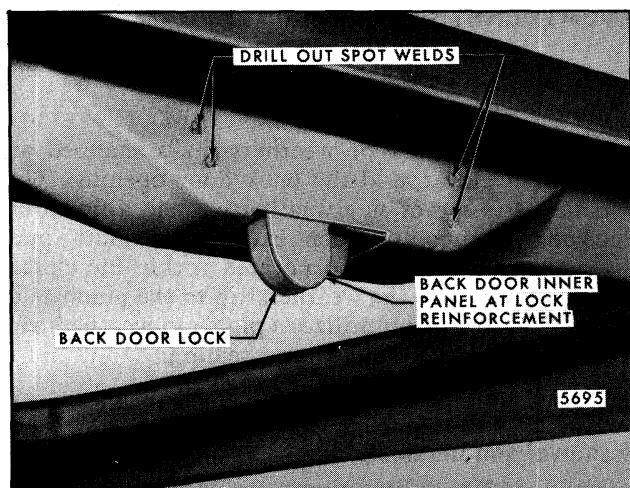

Fig. 7-78-Back Door Lock - "H-15" Styles
2. Drill out spot welds securing back door inner panel at lock reinforcement (Fig. 7-78) using spot weld cutter tool J-8943-01 or equivalent.